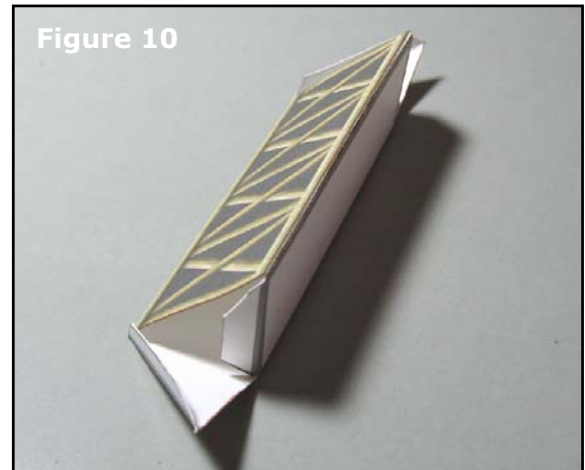

Figure 10
2. Glue the long tab to the inside of the opposite edge, and allow it to dry (Figure 10).